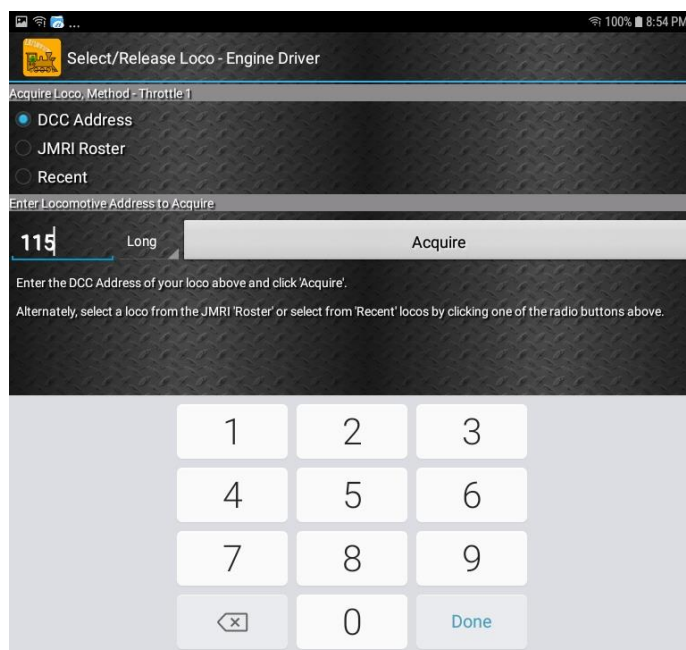

Figure 19 Selecting a locomotive by typing its DCC Address
- (12) The Throttle screen should then appear, ready to select a loco and drive. Tap the Select button, check the “DCC Address” option and type the address of your locomotive either short or long as in Figure 19. Tap Acquire.